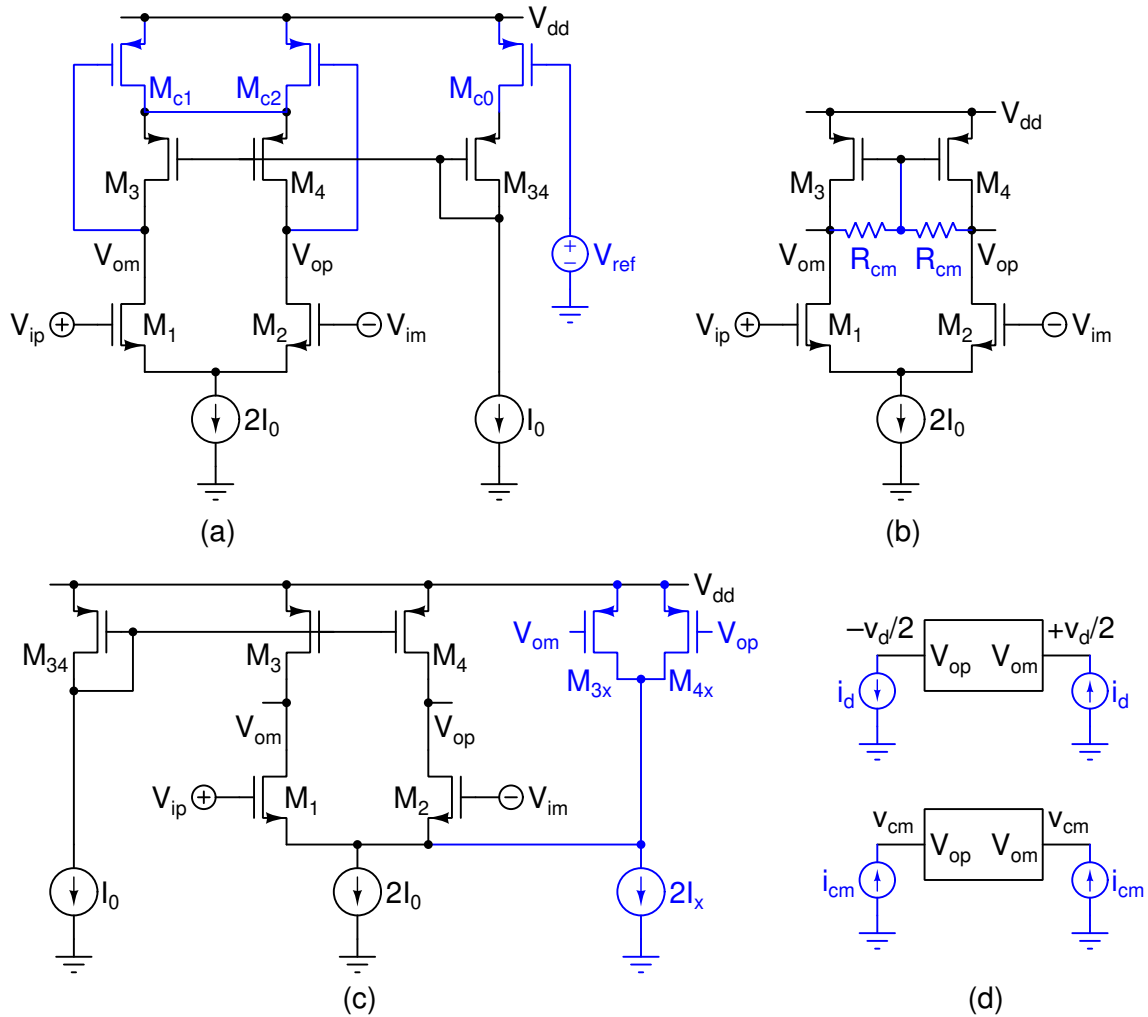

Figure 8.1: Problem 8.1. (a), (b), (c): CMFB circuits, (d) Analysing differential and common mode impedances.
8.1. Fig. 8.1(a, b, c) show three possible common-mode feedback circuits applied to a single-stage opamp. Fig. 8.1(d) shows the configuration for determining differential and common-mode resistances looking into the output terminals. Assume that all transistors are in the saturation region unless otherwise specified. Model pMOS transistors using their g_m and g_{ds} , and nMOS transistors only using g_m . Determine the following: